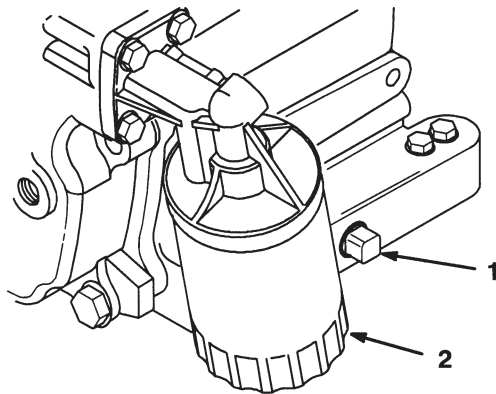

Figure 18
5. Remove the drain plug (Fig. 18) and let the oil flow into a drain pan. When the oil stops, install the drain plug.